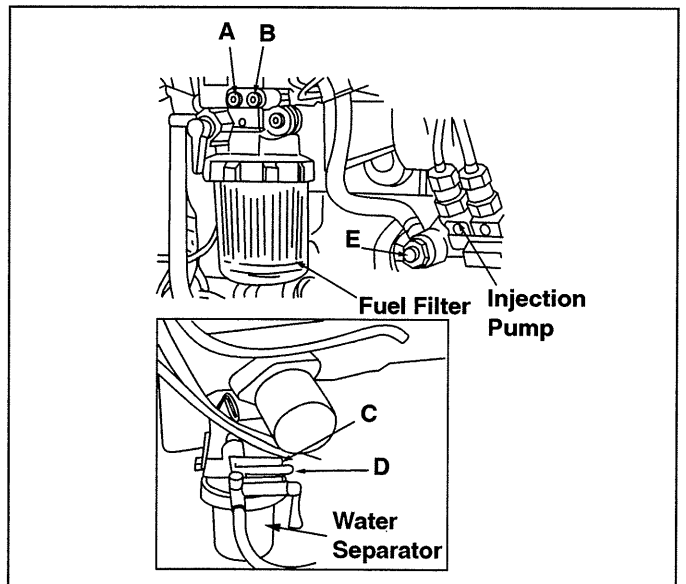

Figure 4-6. Bleeding Air from Fuel System
2. While operating the priming lever on the fuel injector pump, loosen the air bleeding screw (A, Figure 4-6) on the fuel filter. When fuel starts flowing from the bleeder screw (A) without any air, tighten the bleeder screw (A).
3. Repeat step 2 for bleeder screws B, C, D and E (Figure 4-6).